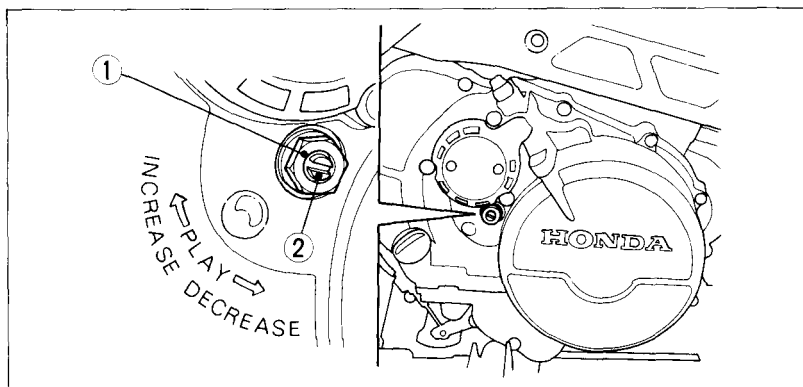

Fig. 4-16
2. Loosen the lock nut (Fig. 4-16), and turn the clutch adjuster (2) counterclockwise until you feel slight resistance.